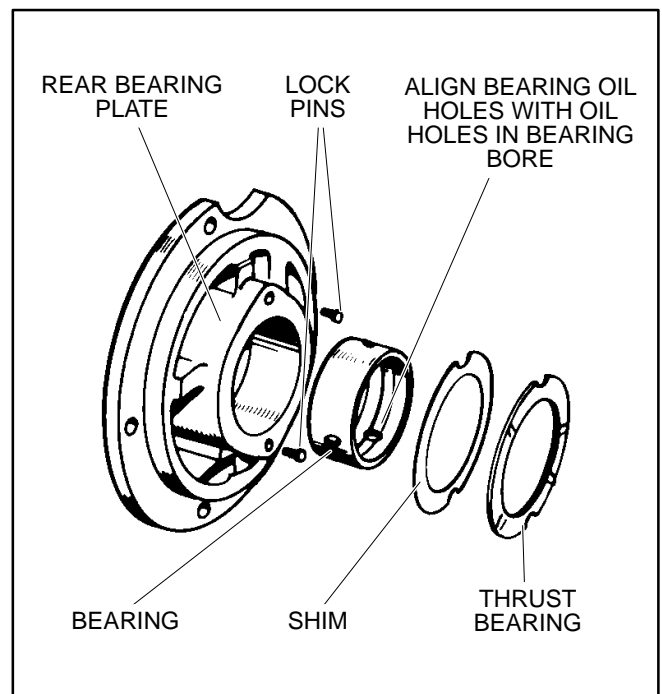

FIGURE 59. REAR CRANKSHAFT BEARING
5. Place the rear thrust bearing and shim on the rear bearing plate with the shim between the bearing and the bearing plate. The flat side of the bearing goes against the shim and the shim and bearing notches should clear the lock pins. (Figure 59). Liberally oil the thrust and shell bearing surfaces.
**Rear Bearing:** See Figure 59. Use the special driver available to drive the rear main bearing into the bearing plate. Make sure the oil holes in bearing and bore will line up so that the passage is at least 1/2 open. Push the driver in until it is stopped by its flange.